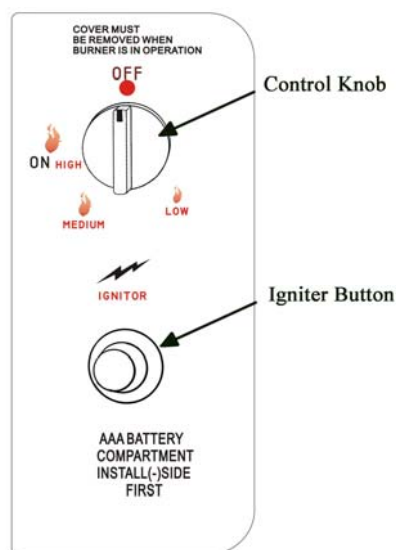

Figure 19
1. Locate the control and igniter panel. Make sure the control knob is in the “OFF” position. See Fig. 19. Open the tank door and open the tank valve all the way.
2. Push in the igniter button. You will hear a slight clicking sound. With the igniter button pushed in, push and turn the control knob to the “ON” position. The fire should light within a few seconds. Once the flame is lit, release the igniter button and continue to hold the control knob in for 10 to 15 seconds. Release the control knob. The control knob should pop back out and the fire should remain lit. Note: If the fire does not light, turn the knob to the “OFF” position and wait five (5) minutes before trying again.